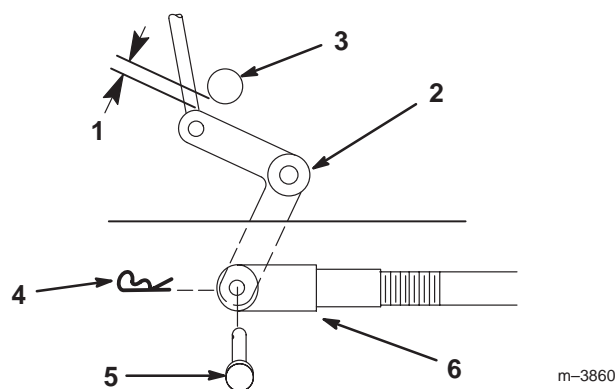
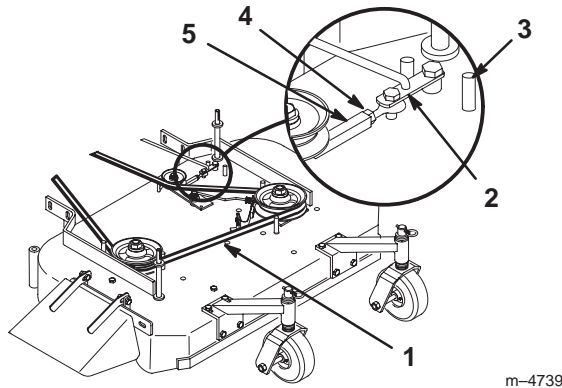

Figure 44
Figure 45
9. Check the clearance between the bell crank and the transmission output shaft (Fig. 44).
11. Rotate the clevis clockwise on the rod to increase the clearance; rotate it counterclockwise to decrease it (Fig. 44).
Note: If the assist arm does not contact the front stop on the mower deck (Fig. 45), adjust the clevis to bring the bell crank closer to the transmission output shaft (Fig. 44).
3. Loosen the locknut on the turnbuckle (Fig. 45).
4. Rotate the turnbuckle toward the rear of the mower to increase the tension on the belt. Rotate the turnbuckle toward the front of the mower to decrease the tension on the belt (Fig. 45).